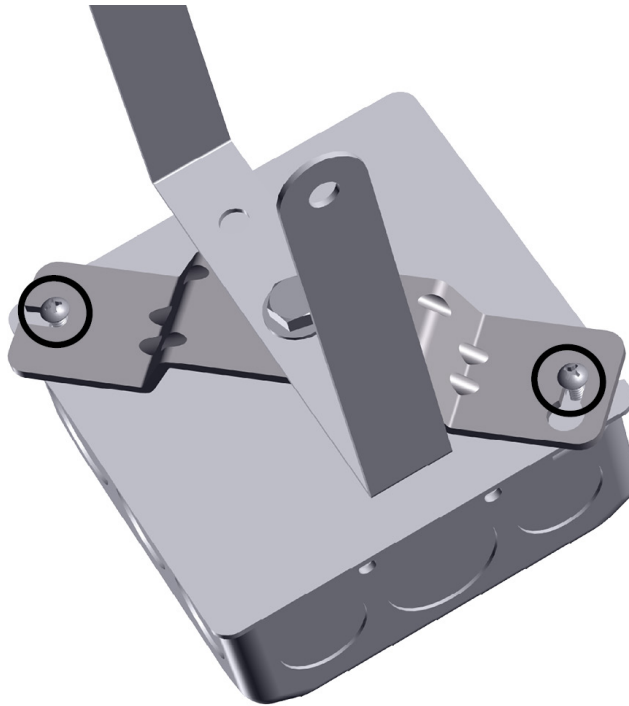

Figure 18. Bracket installed
6. Rotate the bracket down to fully capture the screw (circled) in Figure 18.